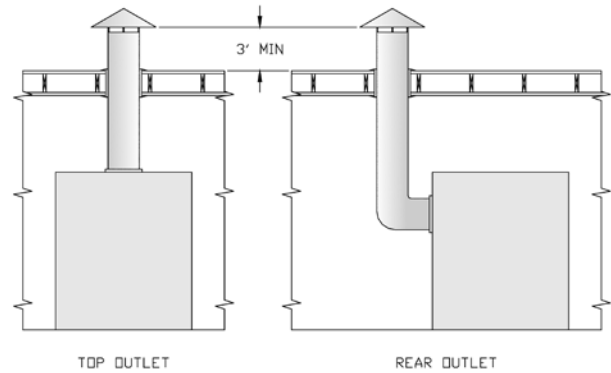
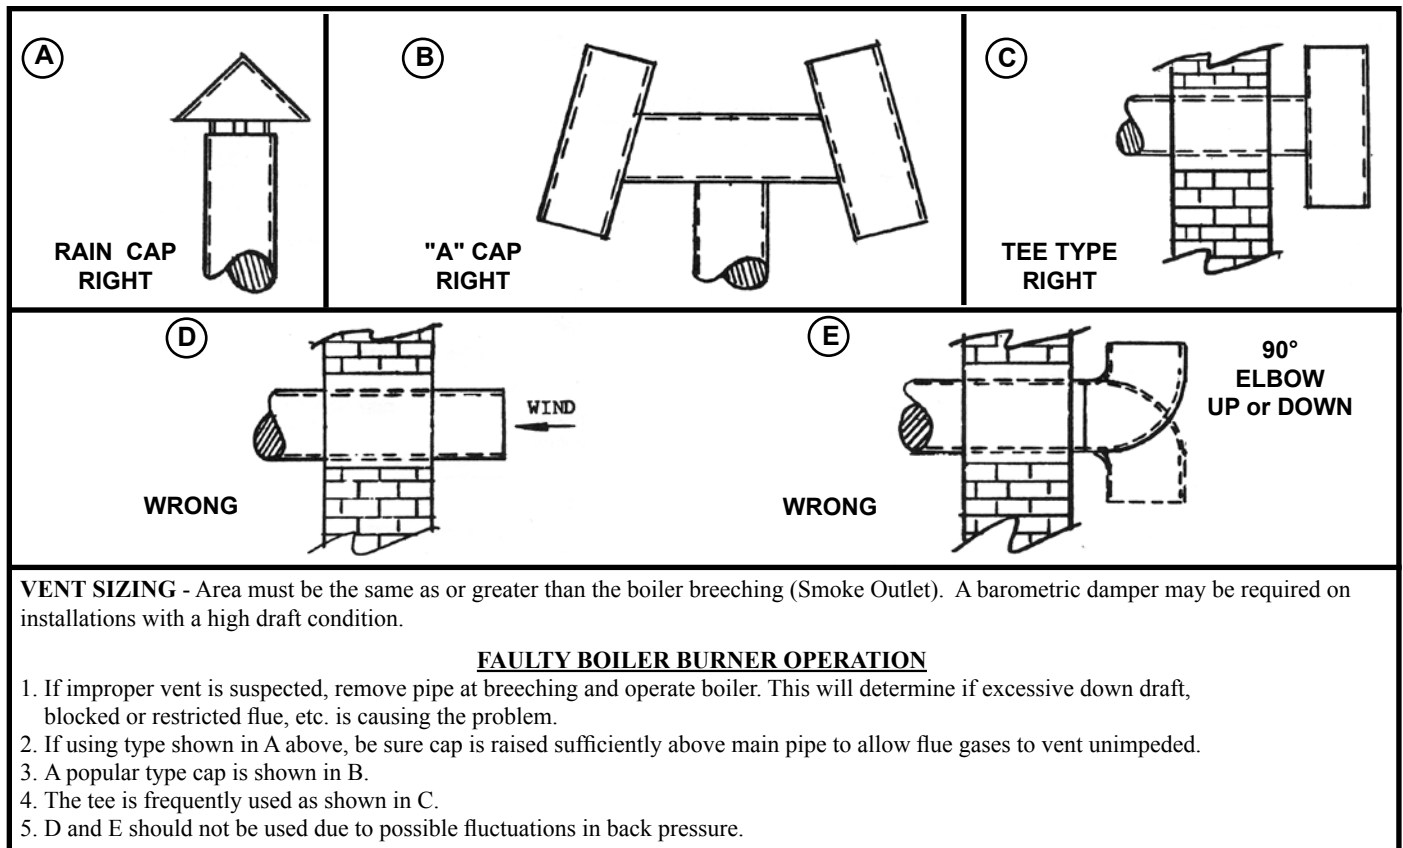

Figure 3a: Typical Arrangement For Stub Vent
Figure 3b: Vents — Faults & Suggestions
The V11 Series boiler is designed for forced draft firing and may be used with a conventional natural draft stack (15' minimum height) or a stub vent, sometimes called a diesel stack (see Figure 3a). See Table I for the proper vent outlet size. For low silhouette vent terminations, see Figure 3b. Draft controls are not normally required, although they may be used on installations where a natural draft stack is used or on multiple boiler installations with a common stack. The boiler is provided with a breeching damper, which should be adjusted to maintain a positive pressure of 0.1" W.C. in the vent connector box during burner high fire operation (see breeching pressure sensing port in Figure 1).
If the venting system is designed for positive or forced draft venting, the boiler, vent connector and stack will operate under positive pressure. Gas tight vent systems designed for pressure systems must be used to prevent flue by-product leakage. The vent height is usually limited to prevent negative draft, typically three (3) feet above the roof line (see Figure 3a). The damper shall be adjusted to maintain a positive pressure of 0.1" W.C. in the vent connector box during burner high fire operation (see breeching pressure sensing port in Figure 1).